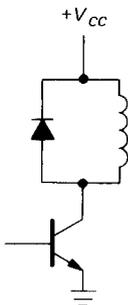

Figure 2.4. Always use a suppression diode when switching an inductive load.
3. For inductive loads, protect the transistor with a diode across the load, as shown in Figure 2.4. Without the diode the inductor will swing the collector to a large positive voltage when the switch is opened, most likely exceeding the collector-emitter breakdown voltage, as the inductor tries to maintain its “on” current from V_{CC} to the collector (see the discussion of inductors in Section 1.31).